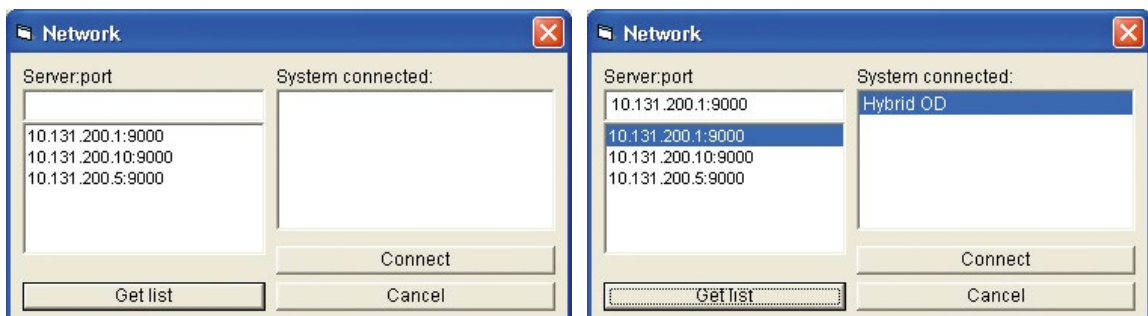

Figure 6-3 Network Connection
5. Enter the IP address into the “Server:port” text box or select one from the list as shown in Figure 6-3 and press the “Get list” button. (The port number is always 9000.)